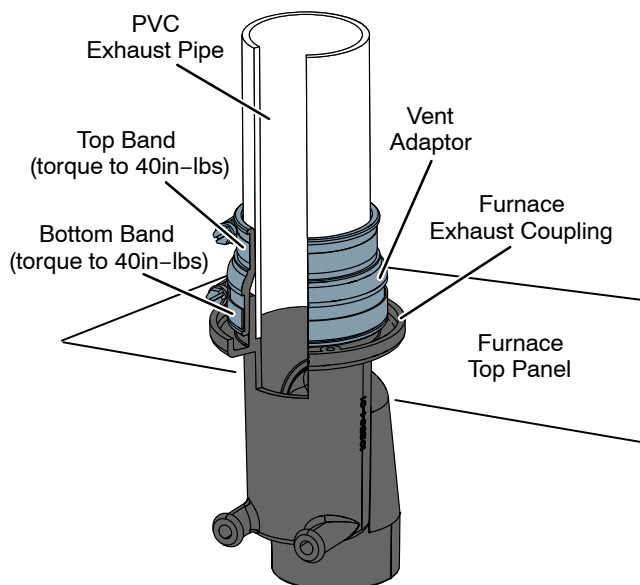

FIGURE 20
**NOTE** - Exhaust coupling must be installed with provided appliance adapter. See figure 20.
### Exhaust Piping (Figures 20, 23 and 24)
- 4 - Tighten both top and bottom bands to 40 in lbs. See figure 20.